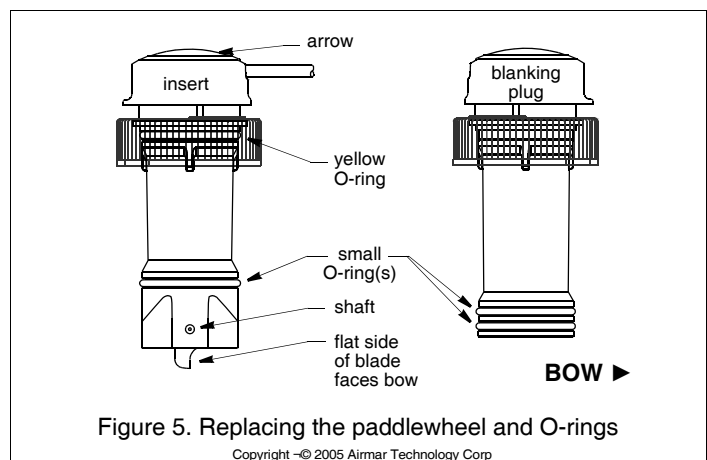

Figure 5. Replacing the paddlewheel and O-rings
5. O-rings must be intact and well lubricated to make a watertight seal. After the marine sealant cures, inspect the O-rings on the insert (replace if necessary) and lubricate them with the silicone lubricant supplied (Figure 5). Be sure the **YELLOW** O-ring is in place near the top. Also lubricate the bore of the housing above the valve.
1. The O-rings must be intact and well lubricated to make a watertight seal. On the blanking plug, inspect the O-rings (replace if necessary) and lubricate them with the silicone lubricant supplied or petroleum jelly (Figure 5).
1. To remove the old paddlewheel shaft, grasp the end with small diagonal wire cutters and pull (Figure 5).